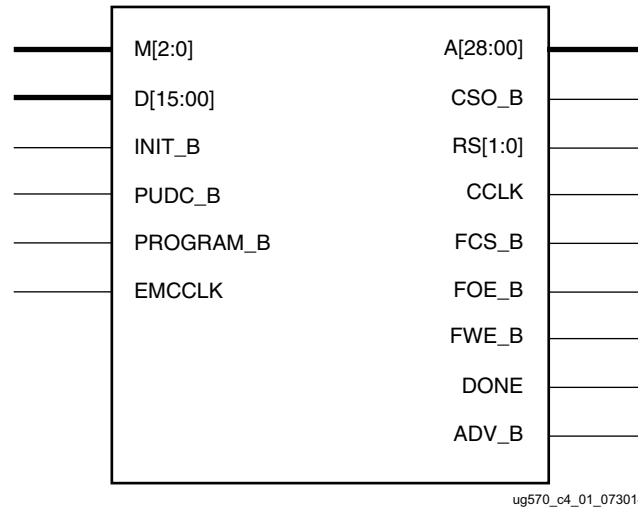
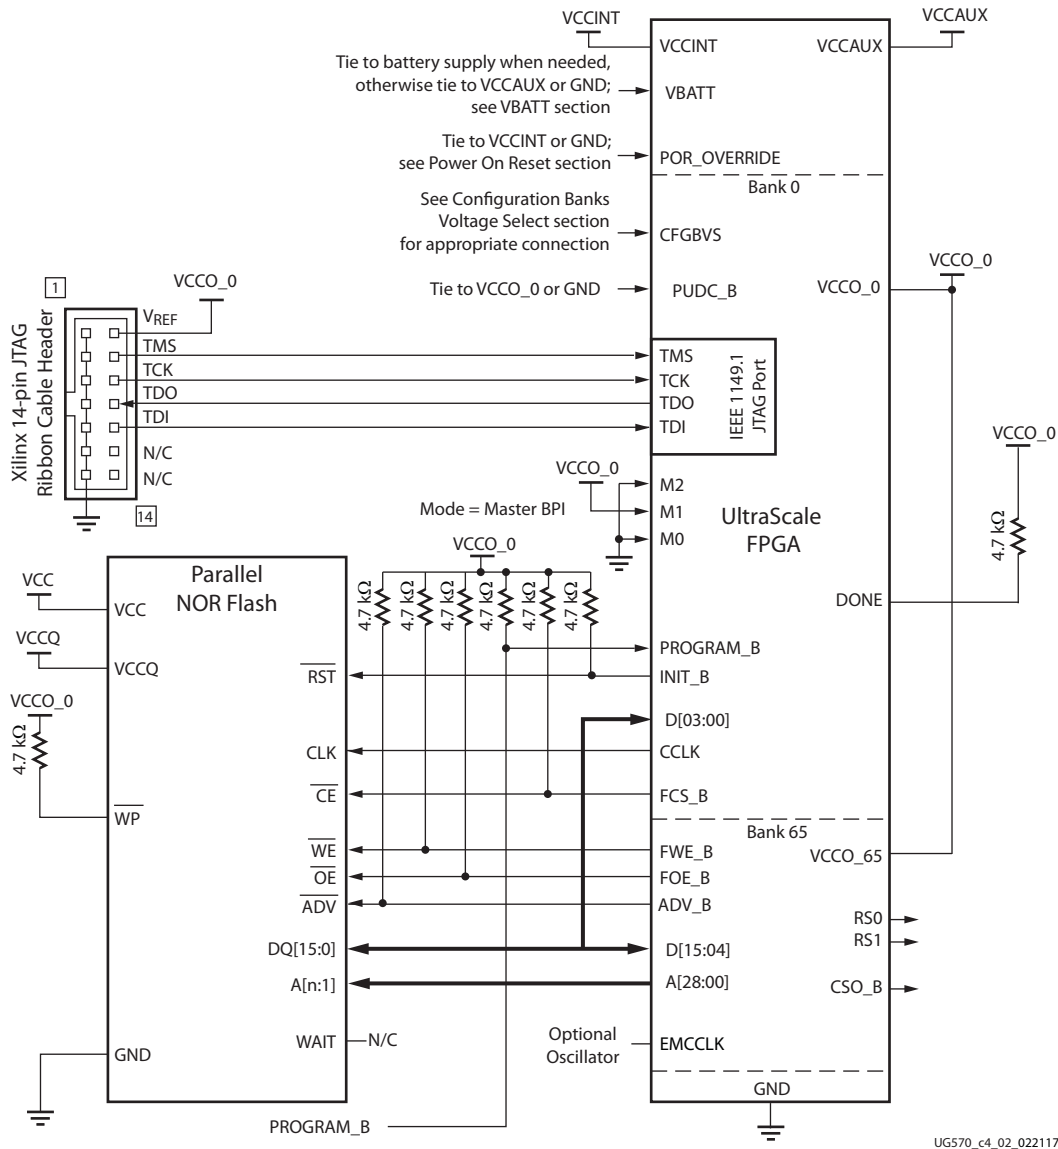
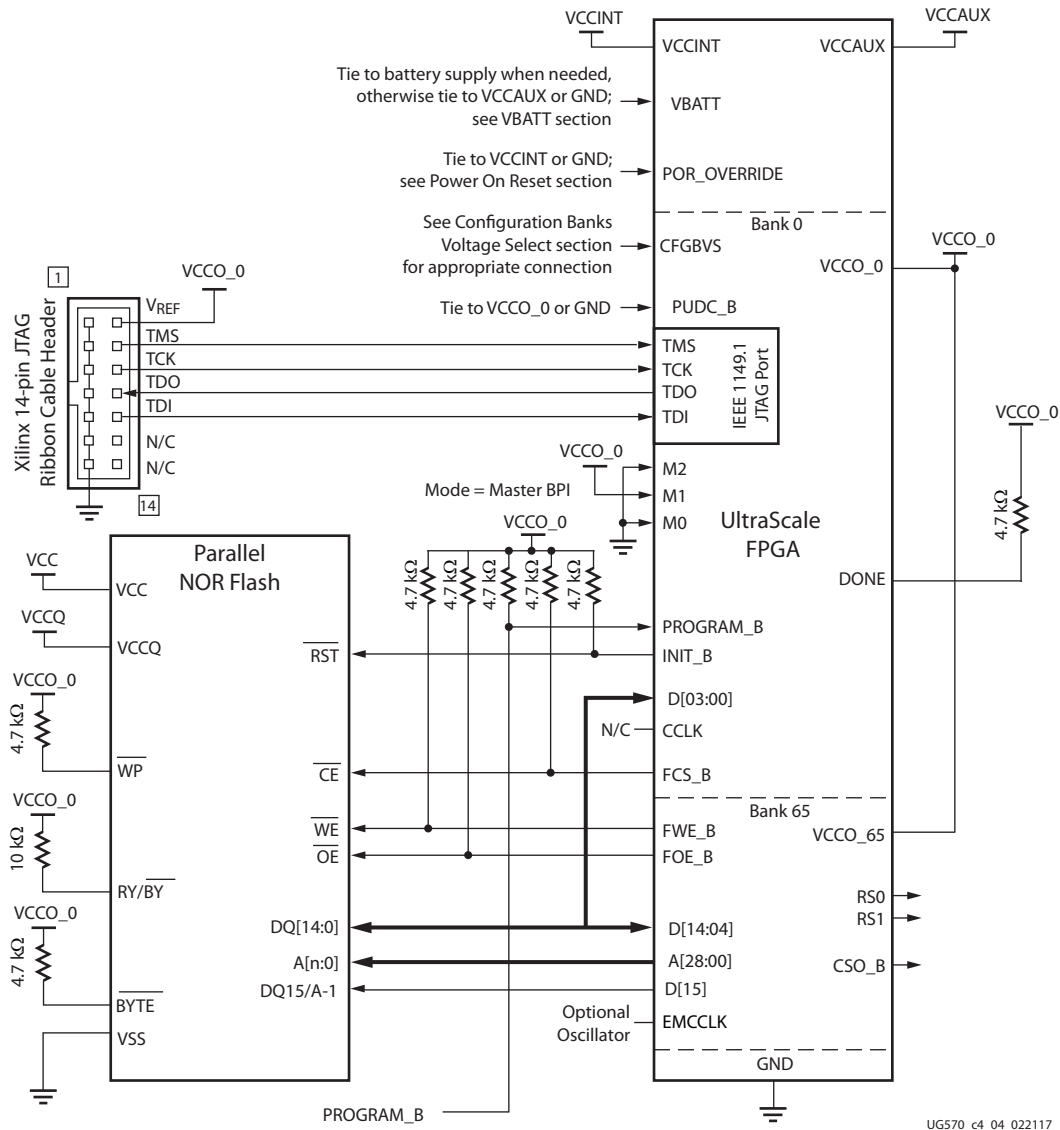

Figure 4-1: Master BPI Configuration Mode Interface
Figure 4-2: Master BPI Configuration Interface Example for x16 Synchronous Read
Figure 4-4: Master BPI Configuration Interface Example for x16 Asynchronous Read
The master BPI configuration interface is represented in Figure 4-1. Detailed connections between the FPGA and the parallel NOR flash for master BPI configuration mode are shown in Figure 4-2 and Figure 4-4. The FPGA signals are defined in Table 1-9, page 28.
Figure 4-2 provides the connectivity diagram between the FPGA and parallel NOR flash for the master BPI configuration mode to support the synchronous read and the EMCCLK (external master configuration clock). Refer to the External Master Configuration Clock \(EMCCLK\) Option in Chapter 1 for configuration clock option details. Figure 4-2 supports both synchronous and asynchronous read modes. If only asynchronous mode is required for the application, refer to Figure 4-4 for connections that are optional.
Notes relevant to Figure 4-2:
11. The RS[1:0] pins are not connected, as shown in Figure 4-2. This sample schematic supports single bitstream configuration. These output pins are optional and can be used for MultiBoot configuration.
By default, UltraScale FPGAs use the parallel NOR flash asynchronous read in the master BPI configuration mode. The FPGA drives the address bus from a given start address, and the flash sends back the bitstream data. The default start address is address 0, but the start address can be explicitly set in a MultiBoot reconfiguration procedure. In asynchronous read mode, supported bus widths of x8 and x16 are auto-detected. Figure 4-4 provides the connectivity diagram between the FPGA and parallel NOR flash for the x16 asynchronous read master BPI configuration mode.
Notes relevant to Figure 4-4:
5. The x16 BPI interface is shown in Figure 4-4. For x8 BPI interfaces, only D[07:00] are used.
13. The RS[1:0] pins are not connected, as shown in Figure 4-4. This sample schematic supports single bitstream configuration. These output pins are optional and can be used for MultiBoot configuration.